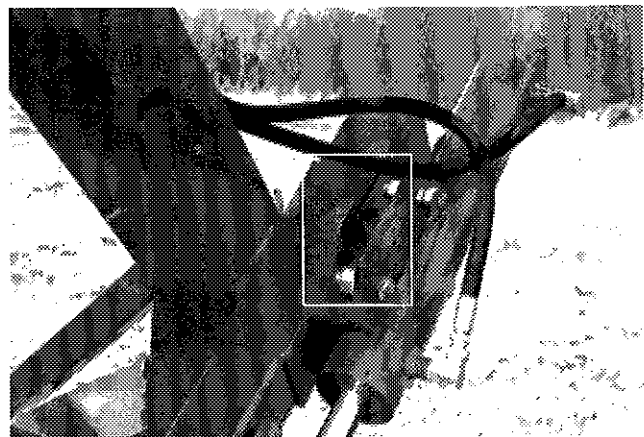

Figure 22
- 7) The stopping pins are used to set the maximum stretching of the ProTube according to bale size. (Fig. 22)
- 1) Before loading the first bale, disengage the pusher trigger mechanism by raising the safety lever. (Fig. 32) This way, the first bale will move forward just enough to verify the pre-setting of the stretcher arms opening. (Step 8 of SilaTube adjustment.) **THERE SHOULD BE APPROXIMATELY 3" (7.6 CM) OF CLEARANCE** between the bale and the inside of the stretcher arms (Fig 33). Re-adjust stopping pins if necessary. (Fig. 22)